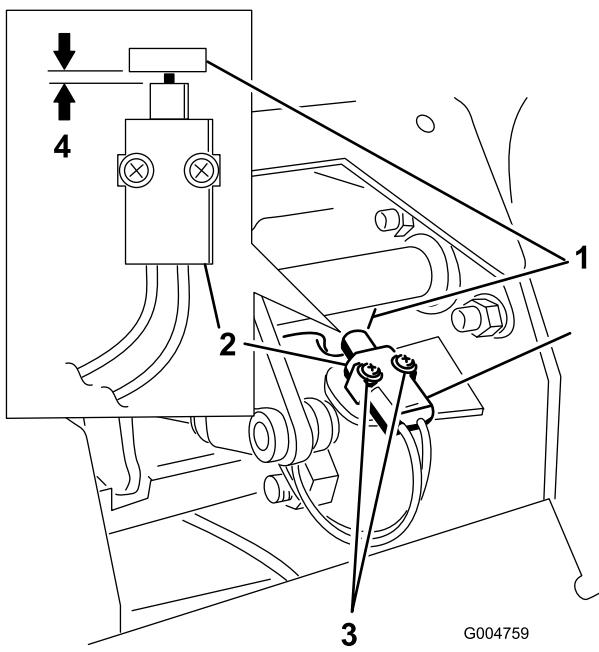

Figure 56
4. Move the switch toward the tab on the brake shaft until the distance between the tab and switch body is 0.015 to 0.045 inch (0.4 to 1 mm) (Figure 56).